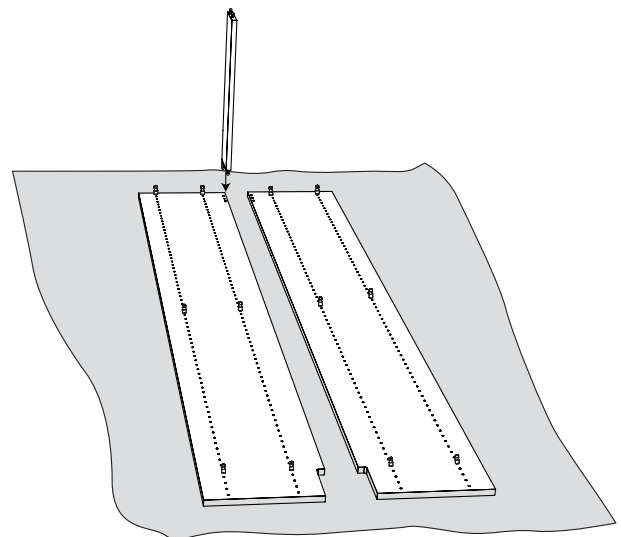

Fig. 2
2. Align dowels in one end of cleat with holes in top of left panel as shown. Push cleat dowels into holes. See Fig. 2.